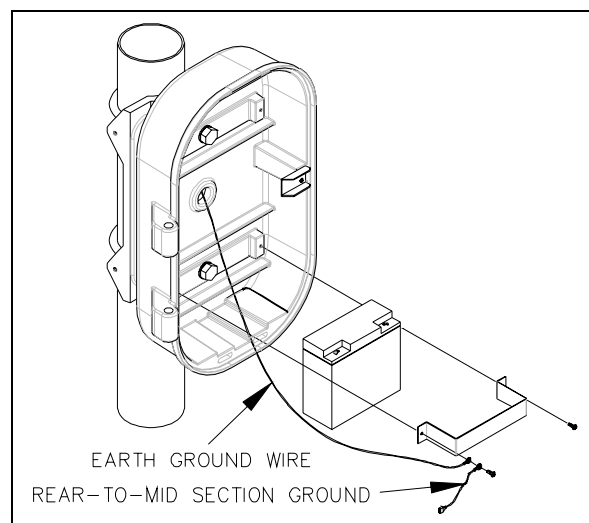

Figure 4. Battery Installation
6. Install battery as shown in Figure 4. Install the earth ground wire and the rear-to-middle ground wire on the left side of the battery bracket.